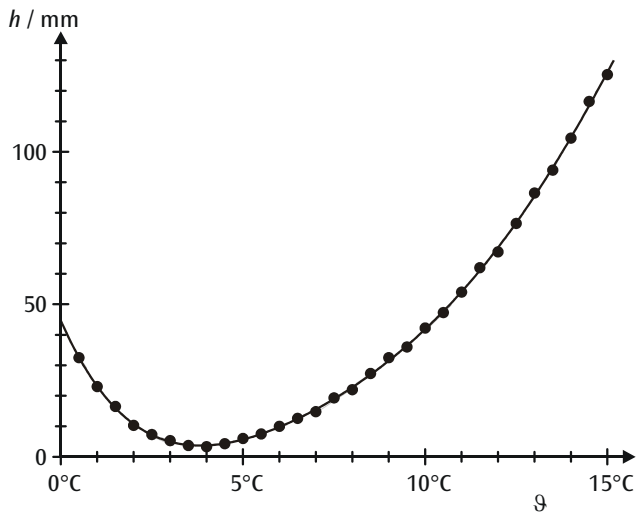

Fig. 3: Water level h as a function of temperature ϑ
Fig. 3 shows the curve resulting from the values in Table 1. The water level h in the riser pipe at 0°C is established by extrapolation. With this data, we get $h(0^\circ\text{C}) = 44.7\text{mm}$. Using Equation (3), we can now calculate the relative density of water.